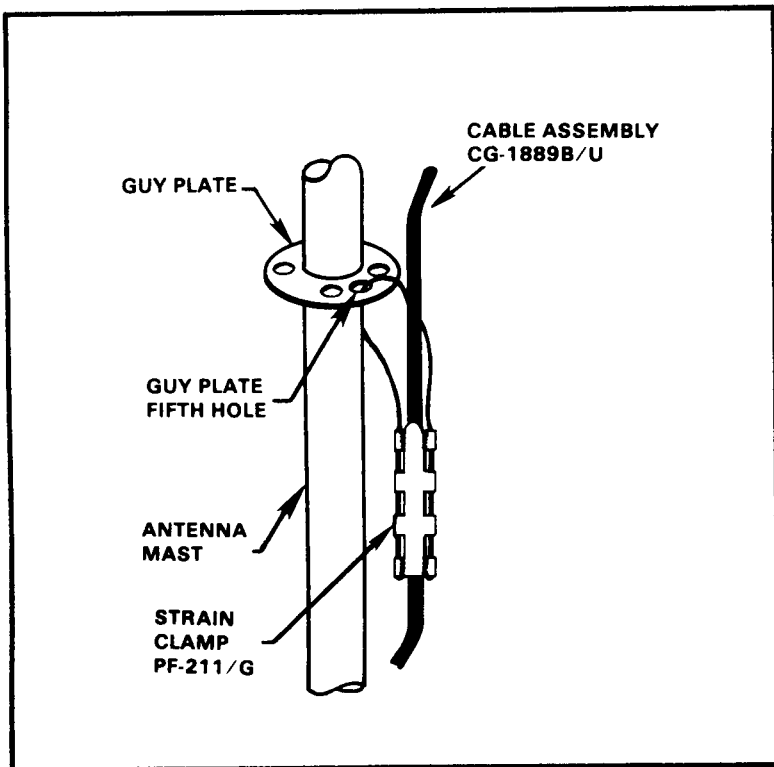

Figure 3-13. Strain clamp closed.
c.	Compress and open the strain relief clamp. Pass the cable of the clamp through the fifth hole of the upper guy plate (Figure 3-13). Secure the cable in the clips of the clamp.